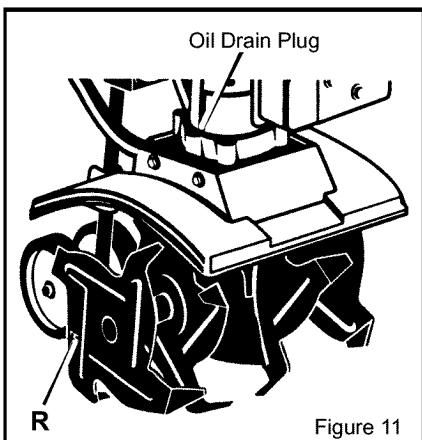

Figure 11
3. When the tines are properly installed, the letter R will be visible on the outside of the **right tine** (see Figure 11). The letter L will be visible on the outside of the left tine.